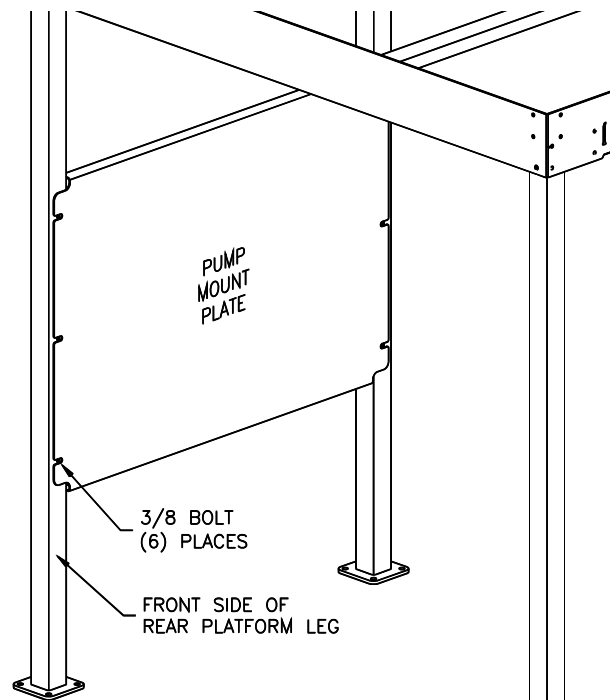

Fig 25 – Pump Mount Plate
- 48) * Install waste oil pump mounting plate to the rear platform legs with 3/8 hardware, **Fig 25**.